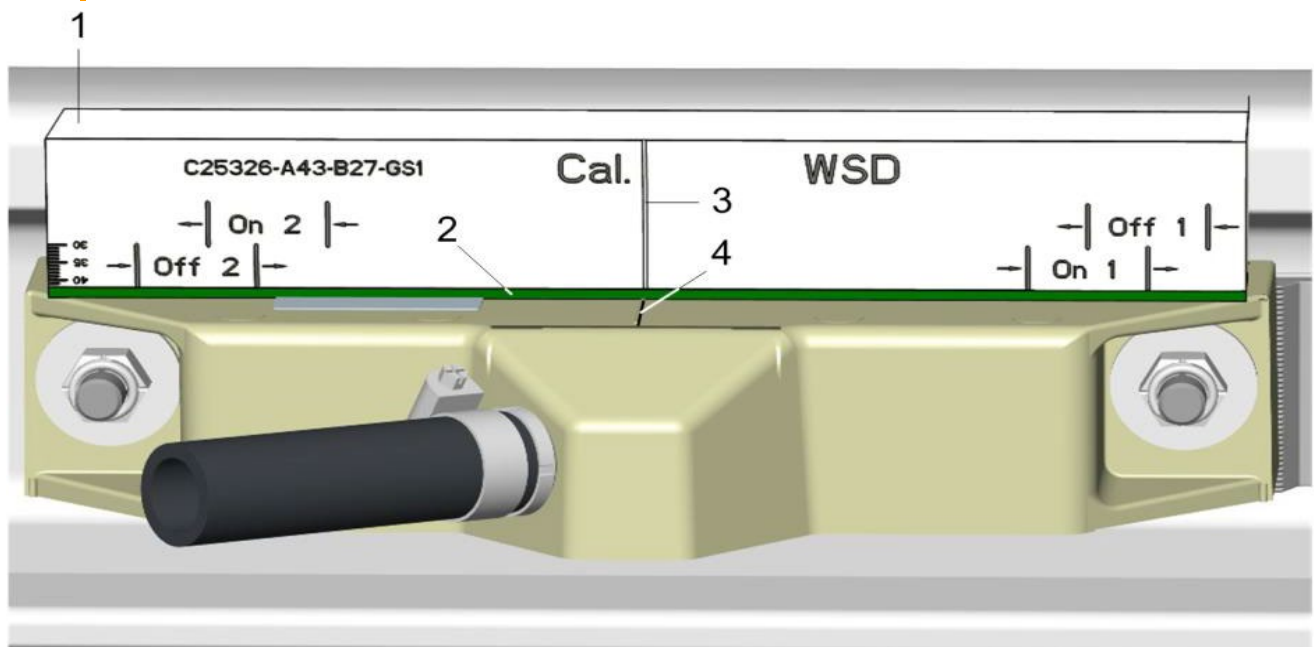

Figure 1 – Positioning of the adjustment gauge on the wheel detector
1.5 Place the adjustment gauge (1) on the top of the wheel detector as shown in figure 1.
1.10 Place the adjustment gauge (1) on the top of the wheel detector as shown in figure 1.
- a) The green metal strip (2) should be on the bottom of the adjustment gauge.
- c) The "Cal." (3) marking should coincide with the center marking (4) on the wheel detector housing.